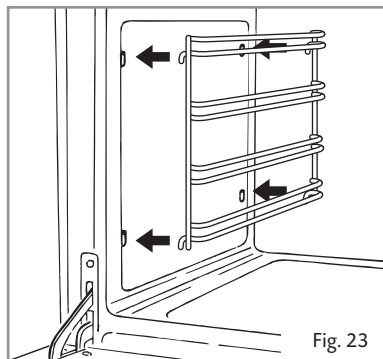

Fig. 23
- Fit the side runner frames into the holes on the side walls inside the oven (Fig. 23).